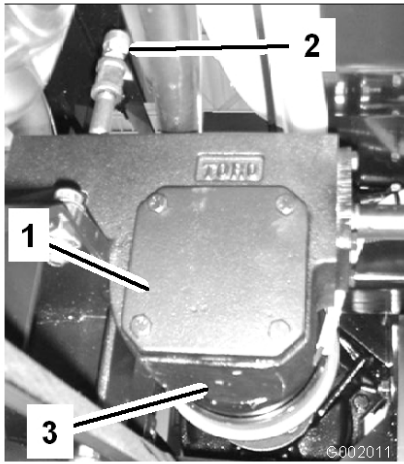

Figure 66
2. Place a pan under the drain plug on the pump drive gear box (Figure 66).
- Remove the fill plug and drain plug (Figure 66), allowing the oil to drain into the pan.